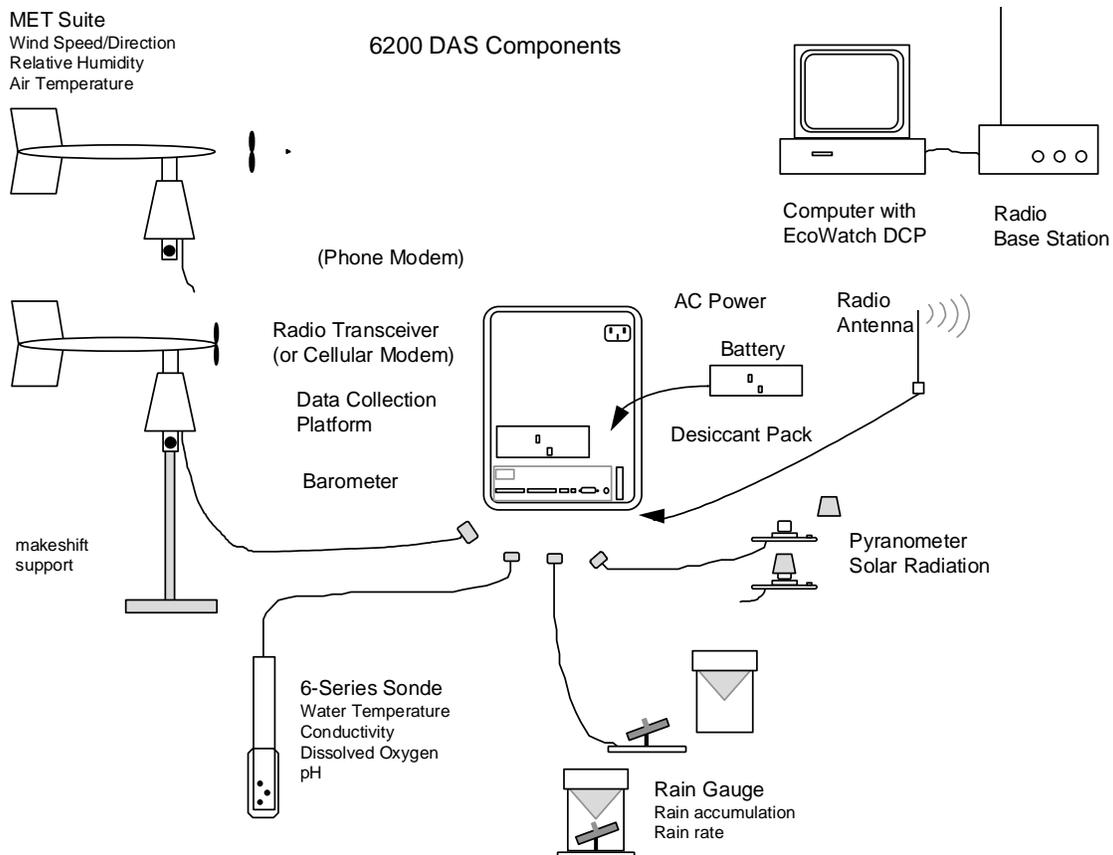

Figure 2.1 Lab Setup for Checking Out the 6200 DAS
4. For proper testing of the Meteorological Suite sensors, you should construct a makeshift support or stand for this accessory. A 2" (5 cm) diameter rigid pipe secured to a base works well. (refer to Figure 2.1) Remove the Meteorological Suite main assembly from its packing carton. The propeller has been packed separately in the same carton. Remove the propeller, and use the finger-nut attached to the main shaft to secure the propeller to the main assembly. The molded lettering on the propeller should face out or away from the main assembly. Hold the front cone and slightly rotate the propeller to insure that it drops into the "cross" shaped channel on the cone. Finally tighten the knob on the main assembly with your fingers. Do not use excessive force. Connect this sensor to the 6200 DCP.